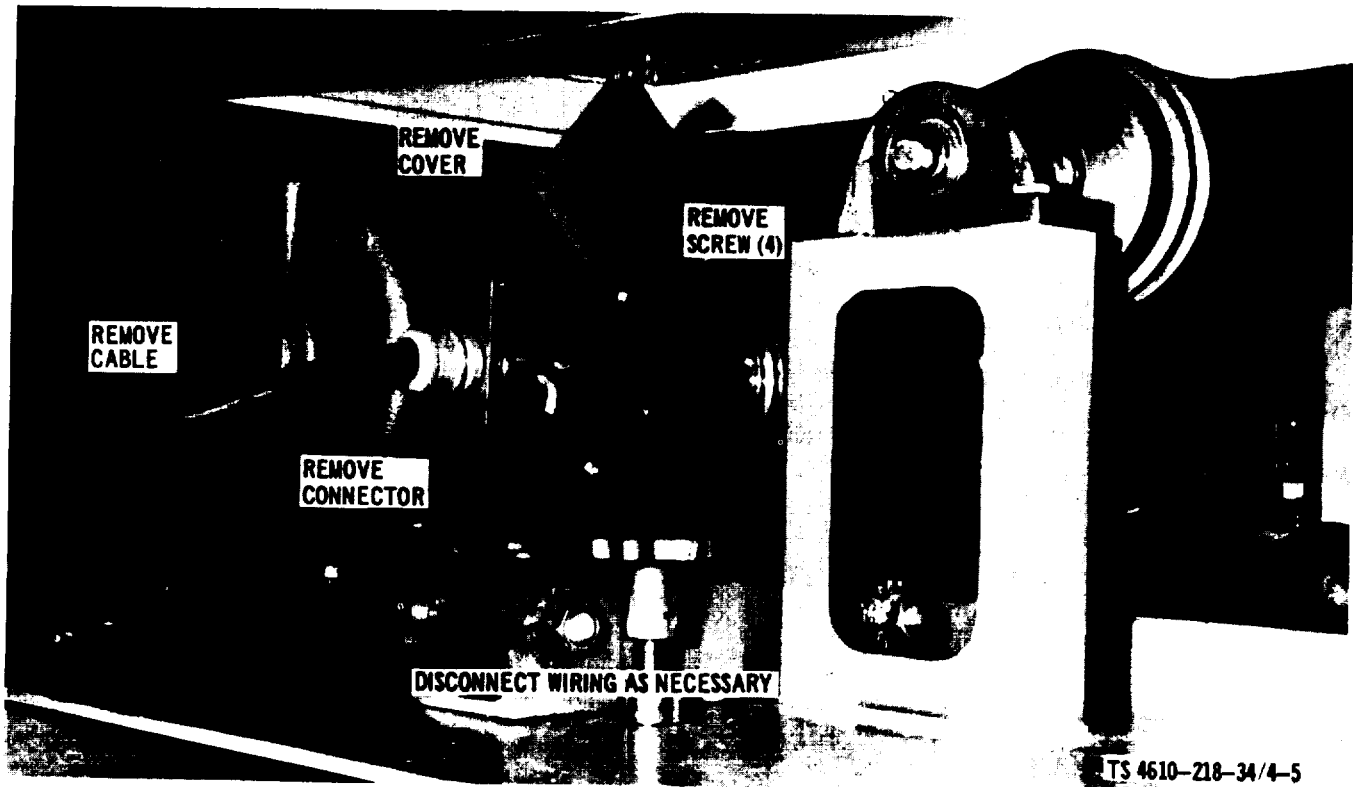

Figure 4-5. Erdlator Agitator Drive Motor Wiring, Removal and Installation
(1) Disconnect the electrical connections from the erdlator agitator drive motor as illustrated in figure 4-5.
(2) Remove the electrical cable clamps securing cables to the bridge rail assembly.
(9) Install the electrical cable clamps and secure cables to the bridge rail assembly.
(10) Refer to figure 4-5 and make all electrical connections to the erdlator agitator drive motor.